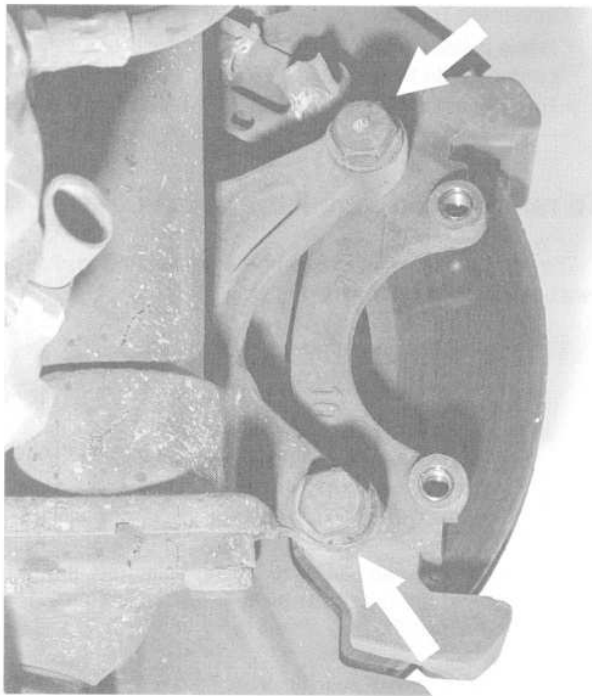

Fig. 8. Front brake pad carrier mounting bolts (arrows). Rear mounting bolts are similar.
2. Remove the pad carrier mounting bolts from the strut assembly (front caliper) or from the trailing arm (rear caliper). See Fig. 8.